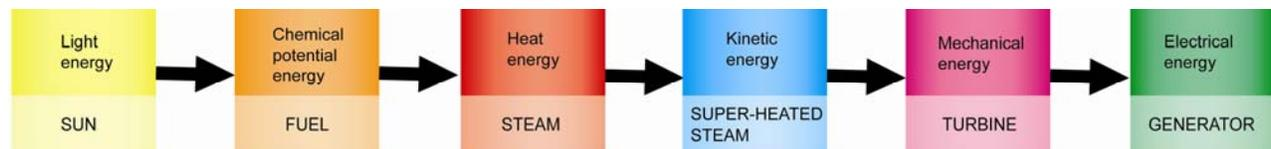

Figure 4 The main energy transformations that occur when electricity is generated at a coal-fired power station
Figure 4 shows the whole sequence of energy transformations that occur when electricity is generated from coal.
- 2 Which energy transformation occurs in the furnace? Write the word 'furnace' above the appropriate arrow in Figure 4.